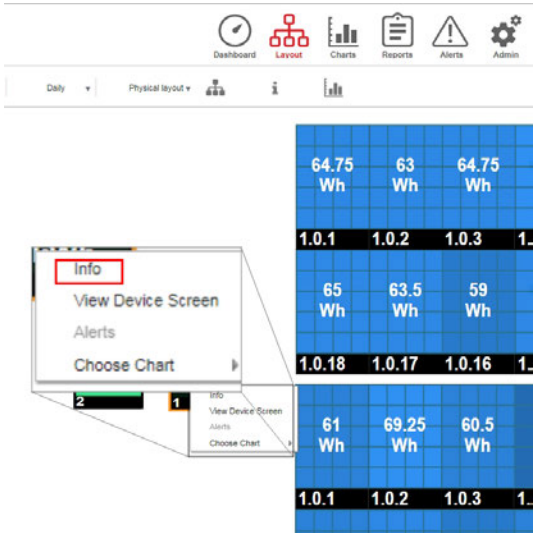

Figure 33: Inverter menu
- 2. Right-click the inverter and select **Info** from the menu (*Figure 33*). The inverter details window is displayed (*Figure 34*).